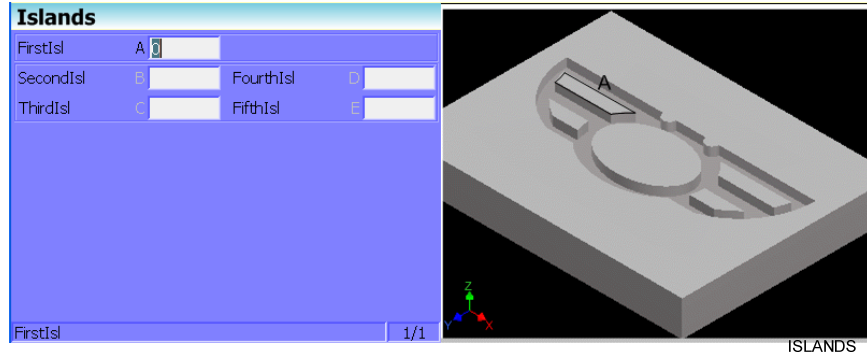

Figure 4-24, Islands Graphic Menu
12. Highlight **Islands** and press **ENTER** to display the Islands Graphic Menu. Refer to **Figure 4-24, Islands Graphic Menu**.